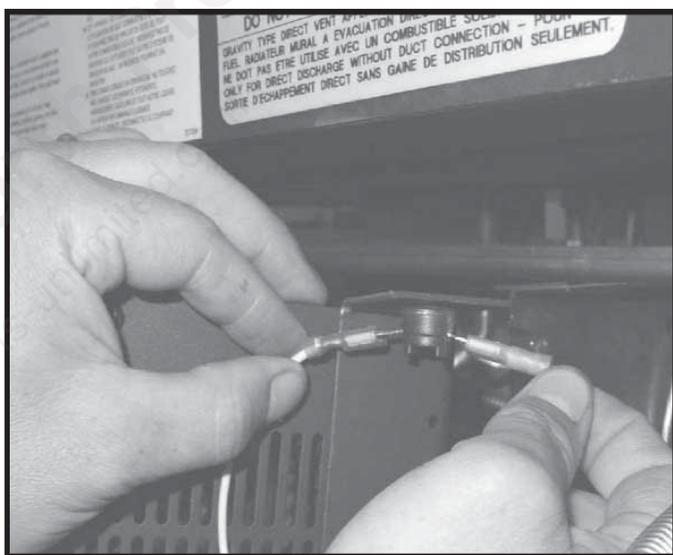

Figure 30
4. Set the snap disc flush in the bracket. Bend the leads horizontal. See Figure 30.